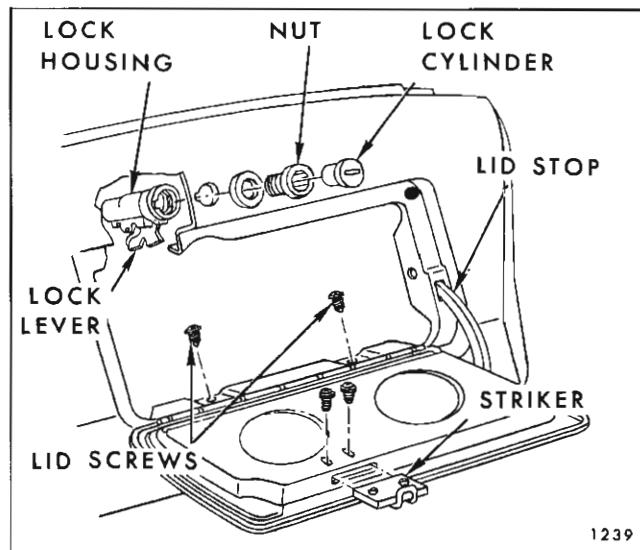

Fig. 2C17—Instrument Panel Compartment Door Assembly -
1. On 13000 series and on 23000 series, remove attaching screws and remove lock assembly, (Fig. 2C15, Fig. 2C16).
2. On 43-44000 series, with key removed and in unlocked position, open door, push locking lever forward to locked position, then working from the right side of the lock housing, insert 1/8" wire in slot of housing, depress tumblers of lock cylinder and remove lock cylinder. Remove lock retainer, by unscrewing retainer to housing and remove lock. (Fig. 2C17).